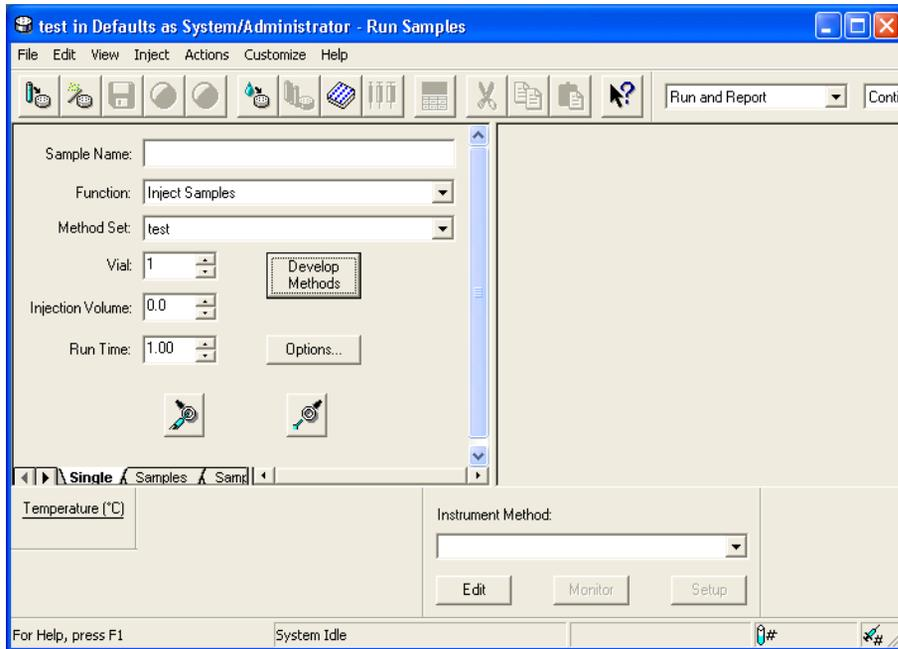

Figure 3-1 Run Samples, Single Tab, Run Only Mode
1. In Run Samples with the Single tab displayed, click **Develop Methods** (Figure 3-1).